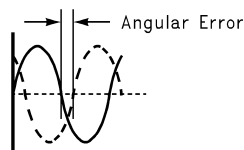

Figure 20. Angular Errors Between the Two Input Signals Will Reduce the Output Level
- Where dev is the angular difference, in degrees, between the two signals having a 180° relative phase relationship to each other (see Figure 20) (5)